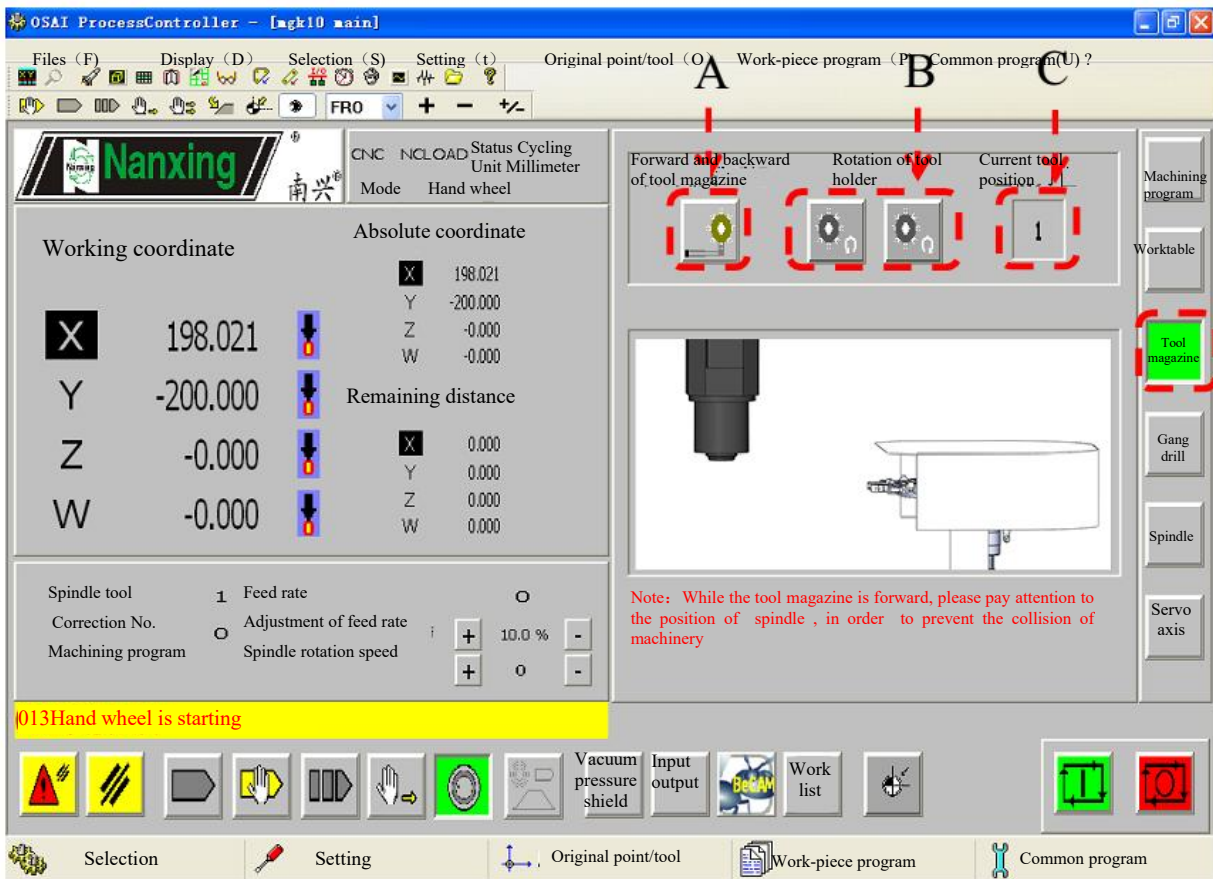

Fig.6.21
2. Click  (tool magazine forward) to control forward and backward of tool magazine, as shown in Fig.6.21(A).
3. Click  (Clockwise rotation of tool magazine) and  (Counterclockwise rotation of tool magazine) to control the clockwise rotation and counterclockwise rotation of tool magazine (rotate one tool position by clicking the button once), as shown in Fig.6.21(B).